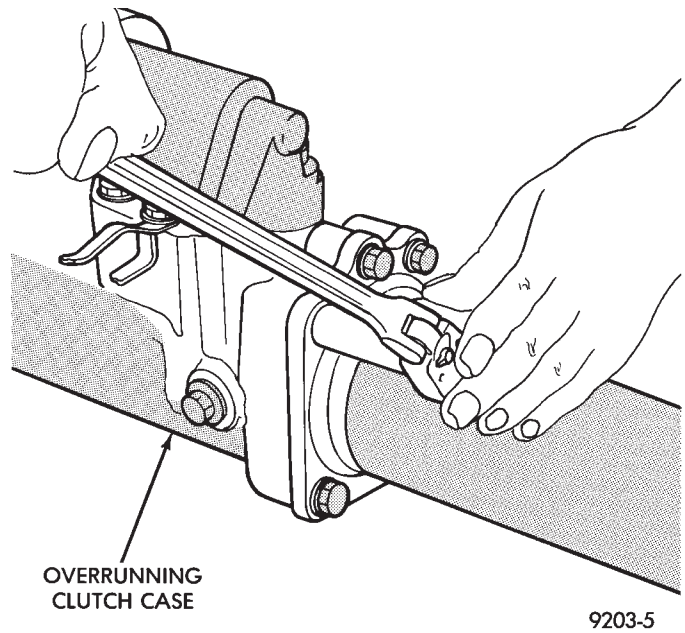

Fig. 7 Torque Tube Bolts
- (9) Remove shaft snap ring and slide dog clutch off of the shaft.
- (10) Remove torque shaft rear bearing snap ring.
- (11) Remove overrunning case to torque tube bolts (Fig. 7).
- (12) Separate torque tube from overrunning clutch housing.